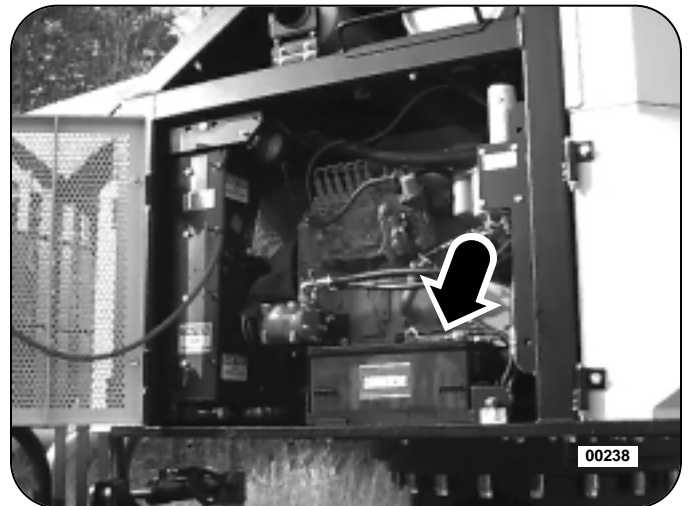

Figure 1: Battery Location
1. Open the perforated swing-out engine guard to gain access to the battery. See Figure 1.